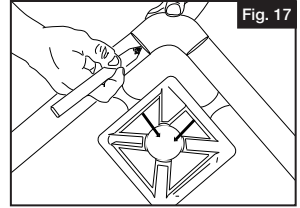

Fig. 17
2. Place the corner in line with each lineal. Scribe and cut the lineals (Fig. 17).